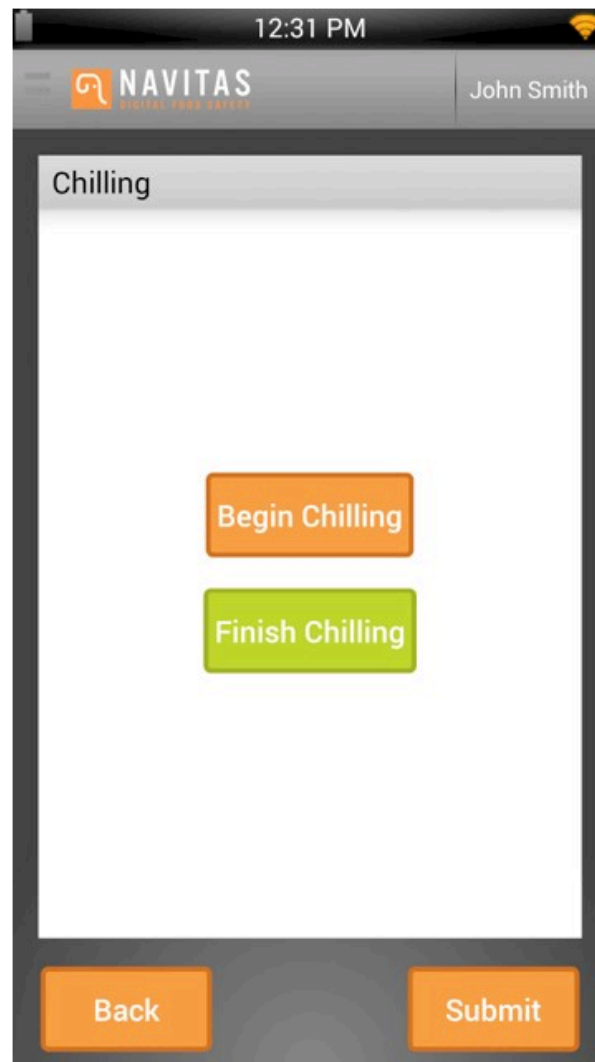

Fig. 22 – Chilling stage selection screen
5. Select “Begin Chilling” to take the starting temperature (see Fig. 22).